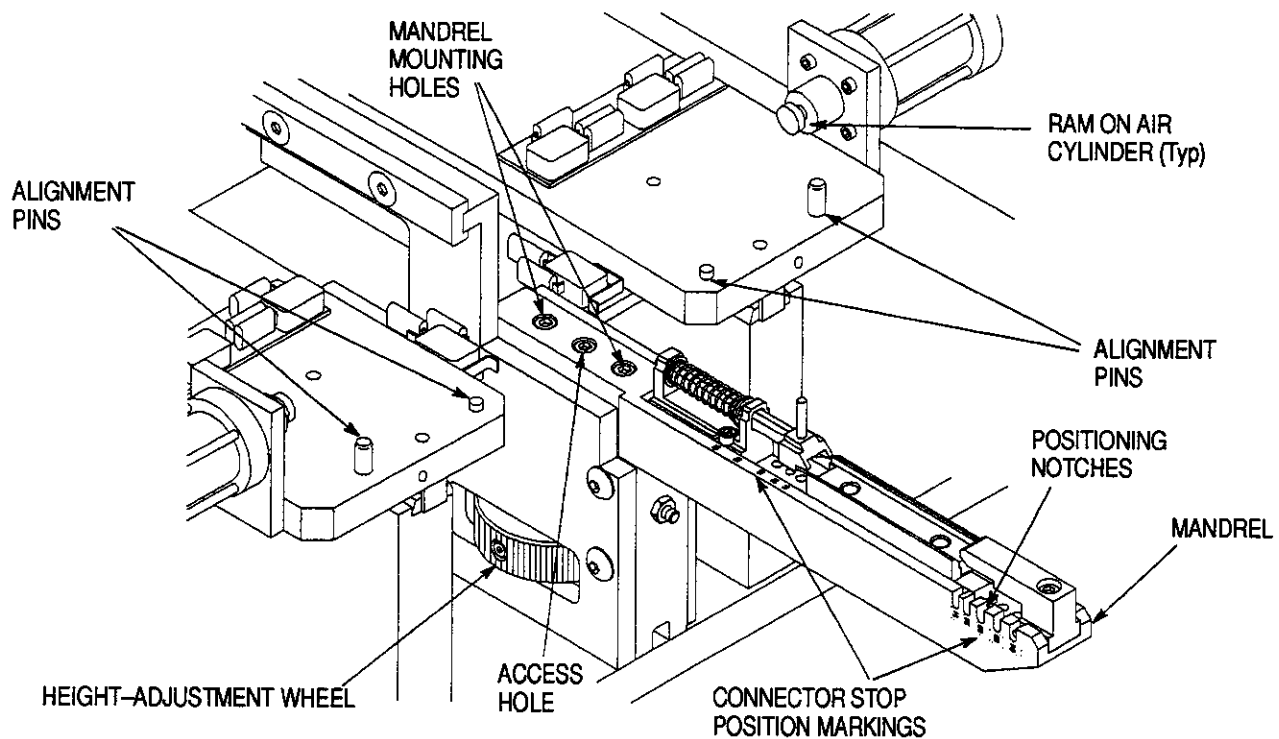
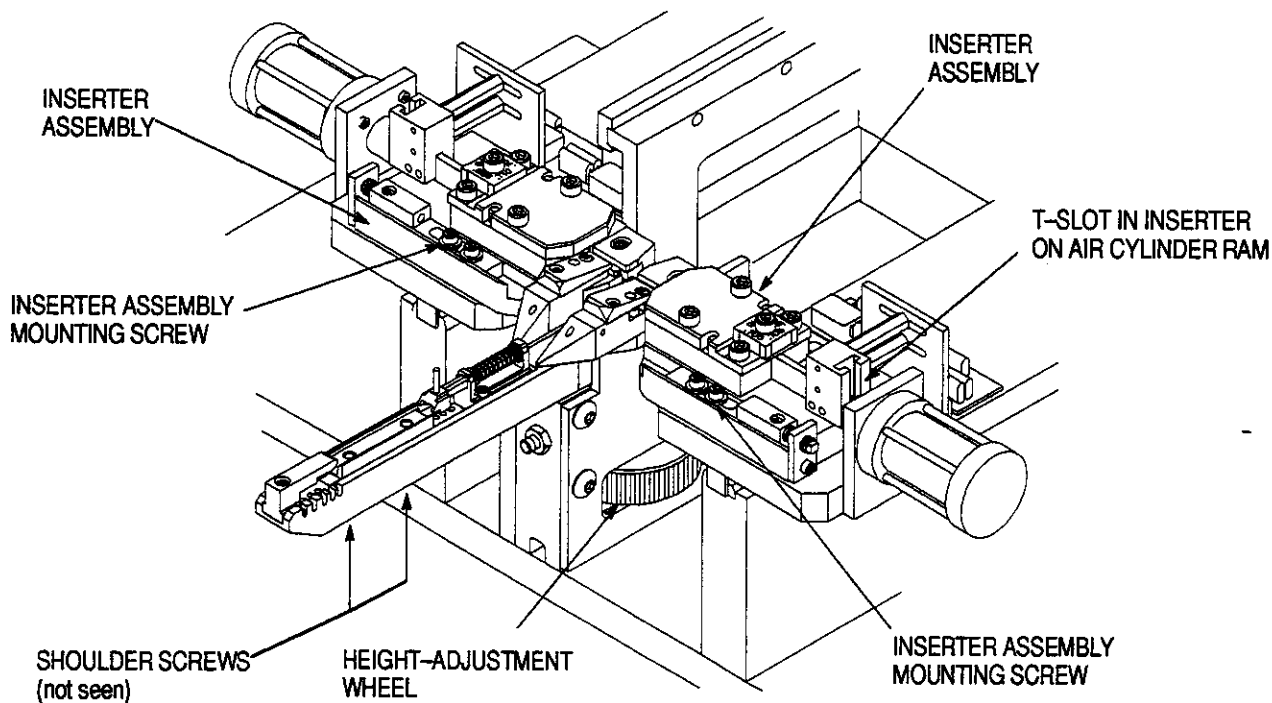

Figure 2
Figure 3
The mandrel is held in place by two hex head cap screws. Refer to Figure 2. To mount the mandrel, proceed as follows:
Each inserter is positioned with two alignment pins, and is held in place by two hex head cap screws. Refer to Figures 2 and 3. To install the inserters, proceed as follows:
2. Position each inserter so that the ram on the air cylinder engages the inserter shaft, as shown in Figure 3. Locate the inserter over the two alignment pins (refer to Figure 2).
1. Locate the locking screw, which is reached through an access hole in the back of the mandrel. Refer to Figure 2. Loosen the locking screw by turning the screw **COUNTERCLOCKWISE** with a 5/32-in. hex wrench.
2. Move the stop to the correct position as determined by the connector size. The positioning pin on the stop should fit into the notches in the side of the mandrel that correspond to the number of connector positions. Refer to Figure 2.
1. Using a 1/8-in. hex wrench, carefully loosen and remove the two shoulder screws, which are accessible under the mandrel. Refer to Figure 3.